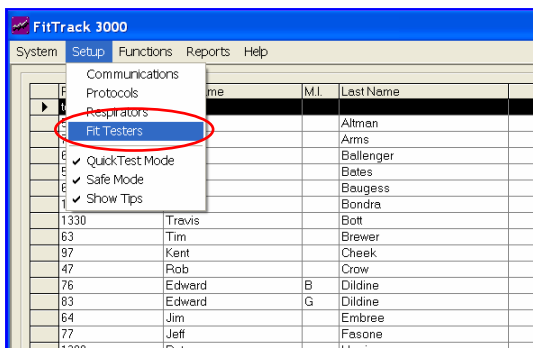

Fig. 2 – Assigning and Instrument
7. Select “Setup” menu and choose “FitTester” (Fig. 2)